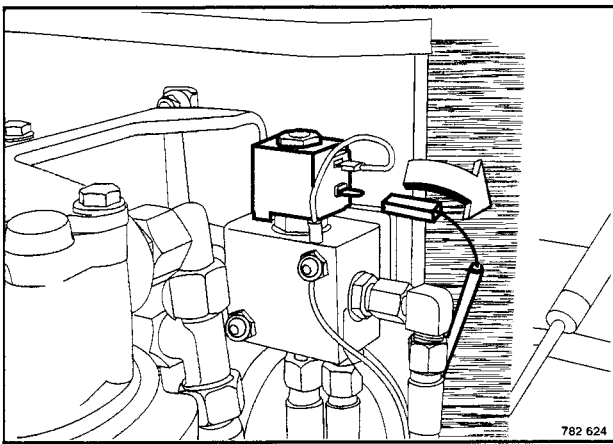

Fig. 6
2. Pull the plug off the brake solenoid valve (Fig. 6).